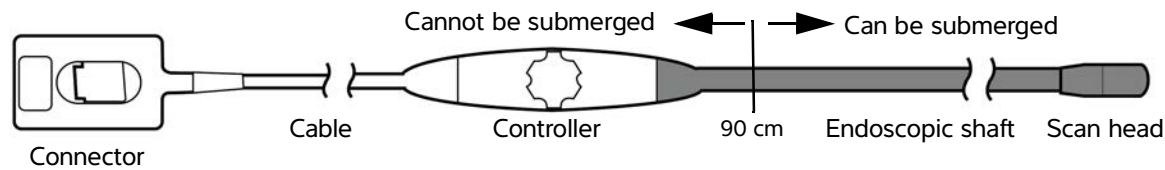

Figure 4-1 Transducer components
Some components of the TEExi transducer have different cleaning requirements and restrictions than others. The cleaning, testing, and disinfection procedures frequently refer to specific components of the transducer. See Figure 4-1 for a diagram of the transducer components.
- 3 Secure the control handle so it cannot fall into the cleaning solution, and immerse the endoscopic shaft and scan head in a plastic container filled with enzymatic cleaning solution up to the 90 cm mark (see **Figure 4-1** on page 4-2).